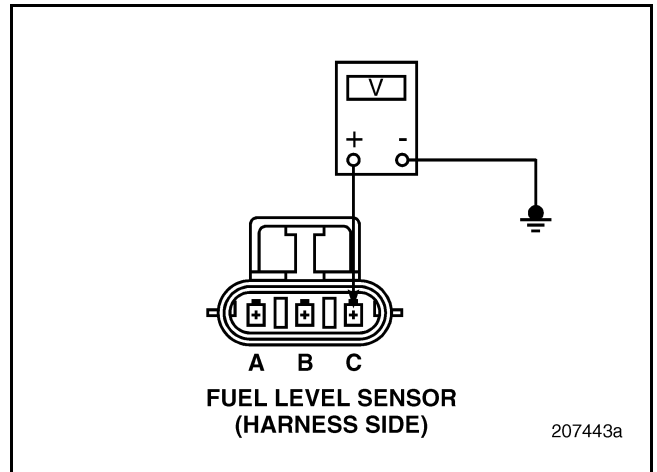

Figure 612
3. Disconnect the Fuel Level (FL) Sensor harness connector.
5. Measure the voltage between Fuel Level (FL) Sensor harness connector pin C and a good ground (see Figure 612).